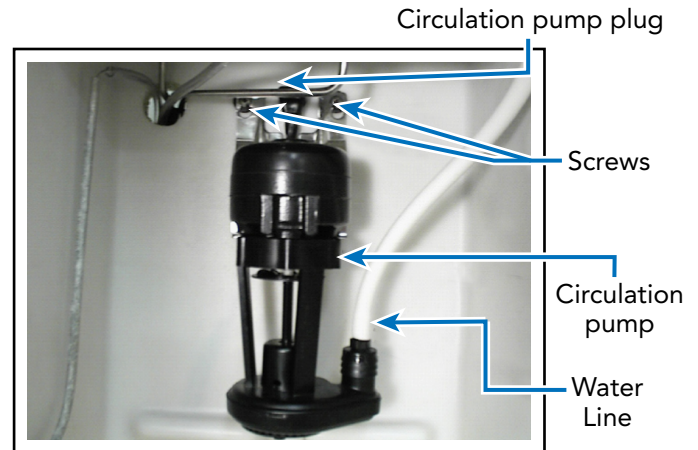

Figure 24
6. Unplug circulation pump at receptacle at top of circulation pump (see **Figure 24**).
7. Disconnect water line attached to circulation pump (see **Figure 24**).
8. Remove the two screws that secure circulation pump (see **Figure 24**).